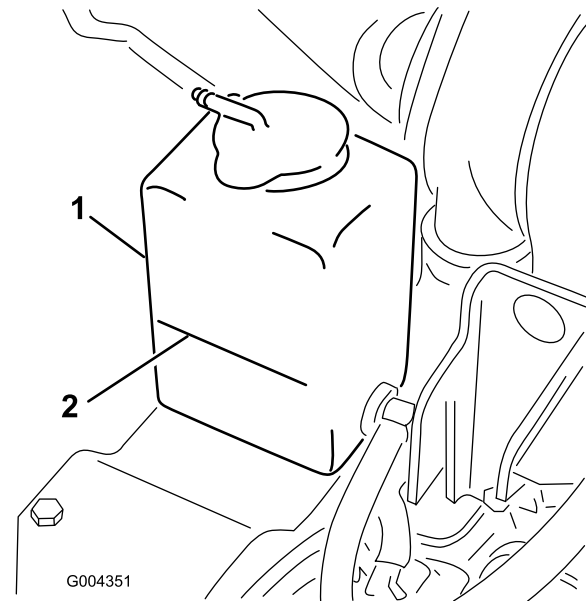

Figure 19
1. Check the level of coolant in the expansion tank (Figure 19).